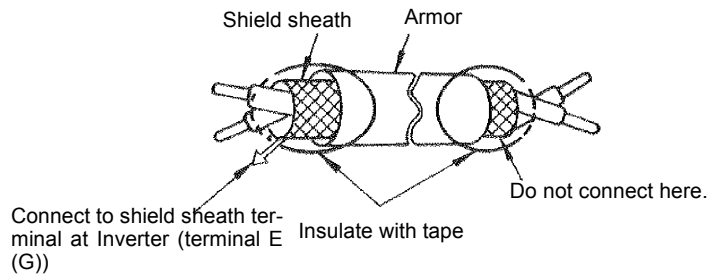

Fig 2.23 Processing the Ends of Twisted-pair Cables
- Use twisted-pair or shielded twisted-pair cables for control circuits to prevent operating faults. Process cable ends as shown in *Fig 2.23*.
- Connect the shield wire to terminal E (G).